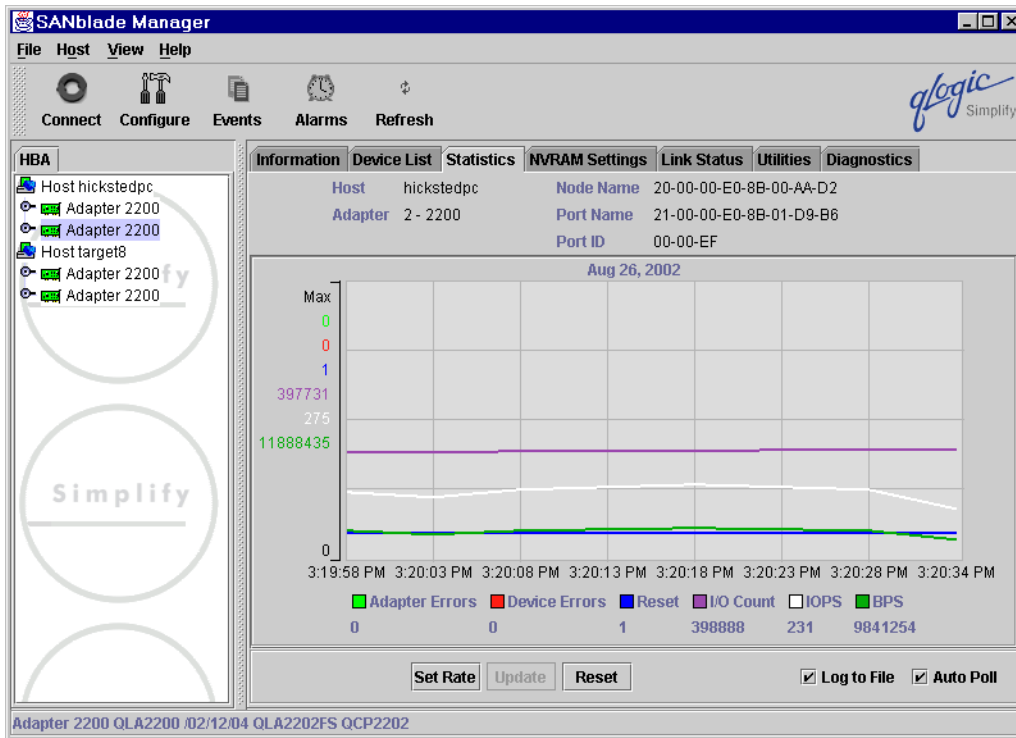

Figure 9-9. Adapter Statistics Tabbed Page
2. Select the **Statistics** tab. The **Adapter Statistics** tabbed page displays (see figure 9-9).
1. From the **Adapter Statistics** tabbed page (see figure 9-9), select the **Log to File** check box. See section 9.2.2.1 for information on accessing the **Host Statistics** tabbed page.